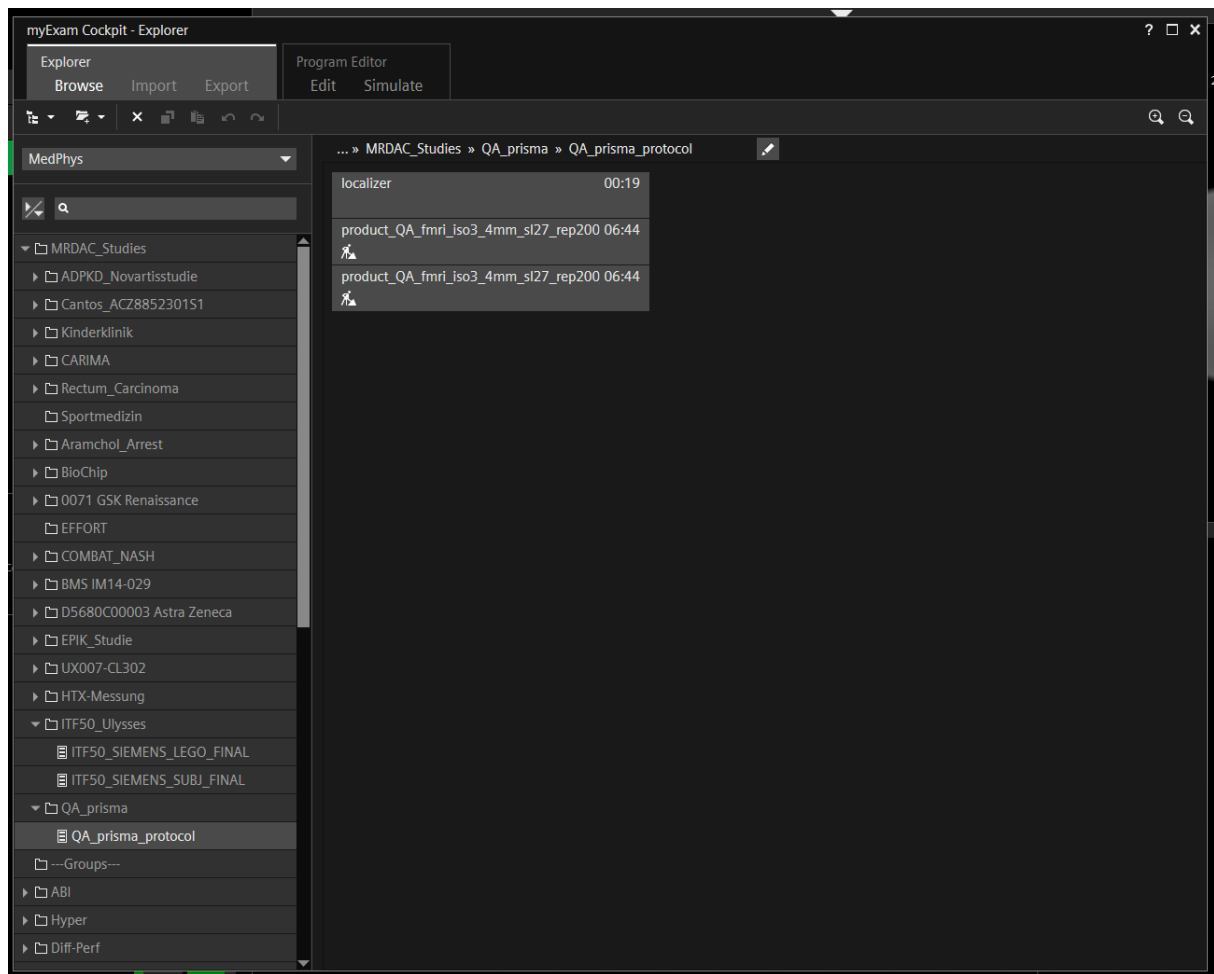

FIGURE 3 QA protocol on Prisma.
The QA protocol is shown in Figure 3, including:
- The SE scan (4:21 min) (not shown on FIGURE 3)
- The third fMRI scan (6:44 min) (not shown on FIGURE 3)